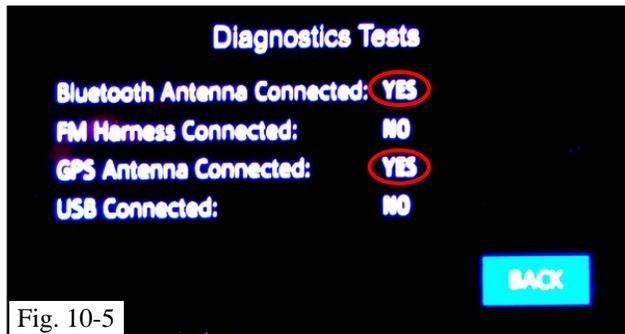

Fig. 10-5
- (e) Confirm the following connections are displayed (Fig. 10-5).